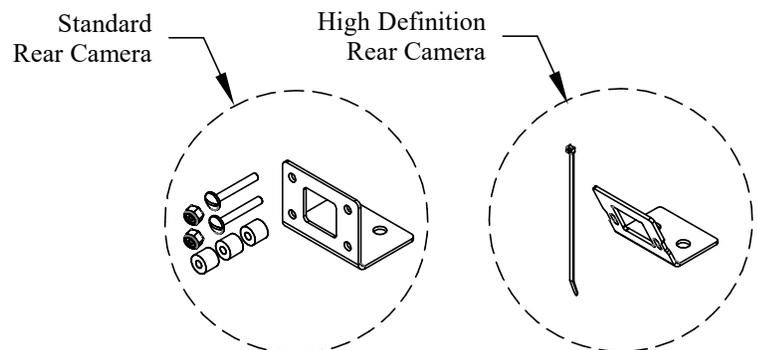

Figure 8: Camera brackets and fasteners.
1. **Select** appropriate camera bracket and fasteners (Figure 8).